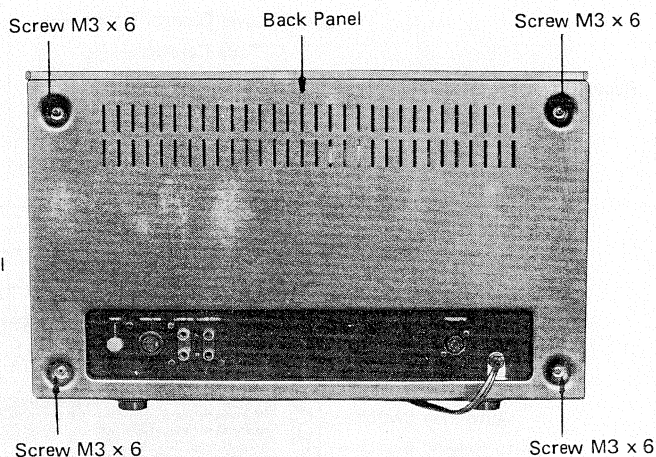

Figure 4. Location of Screws
2. Remove four screws from the back panel. See figure 4.